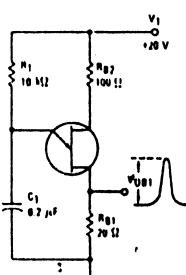

FIGURE 4 — ρ TEST CIRCUIT
* Valley-Point Current (2) ($V_{D2D1} = 20\text{ V}$, $R_{D2} = 100\text{ ohms}$)	13, 14	I_V	2.0 4.0 6.0	—	—	mA
- (1) Intrinsic standoff ratio, is defined in terms of the peak-point voltage, V_P , by means of the equation: $\rho = V_{D2D1} / V_P$, where V_P is about 0.49 volt at 25°C @ $I_E = 10\text{ }\mu\text{A}$ and decreases with temperature at about $2.5\text{ mV}/^\circ\text{C}$. The test circuit is shown in Figure 4. Components R_1 , C_1 , and the UJT form a relaxation oscillator; the remaining circuitry serves as a peak-voltage detector. The forward drop of Diode D_1 compensates for V_P . To use, the "cal" button is pushed, and R_1 is adjusted to make the current meter, M_1 , read full scale. When the "cal" button is released, the value of ρ is read directly from the meter, if full scale on the meter reads 1.0.
- (2) Use pulse techniques: $PW = 300\text{ }\mu\text{s}$, duty cycle $\leq 2.0\%$ to avoid internal heating, which may result in erroneous readings.